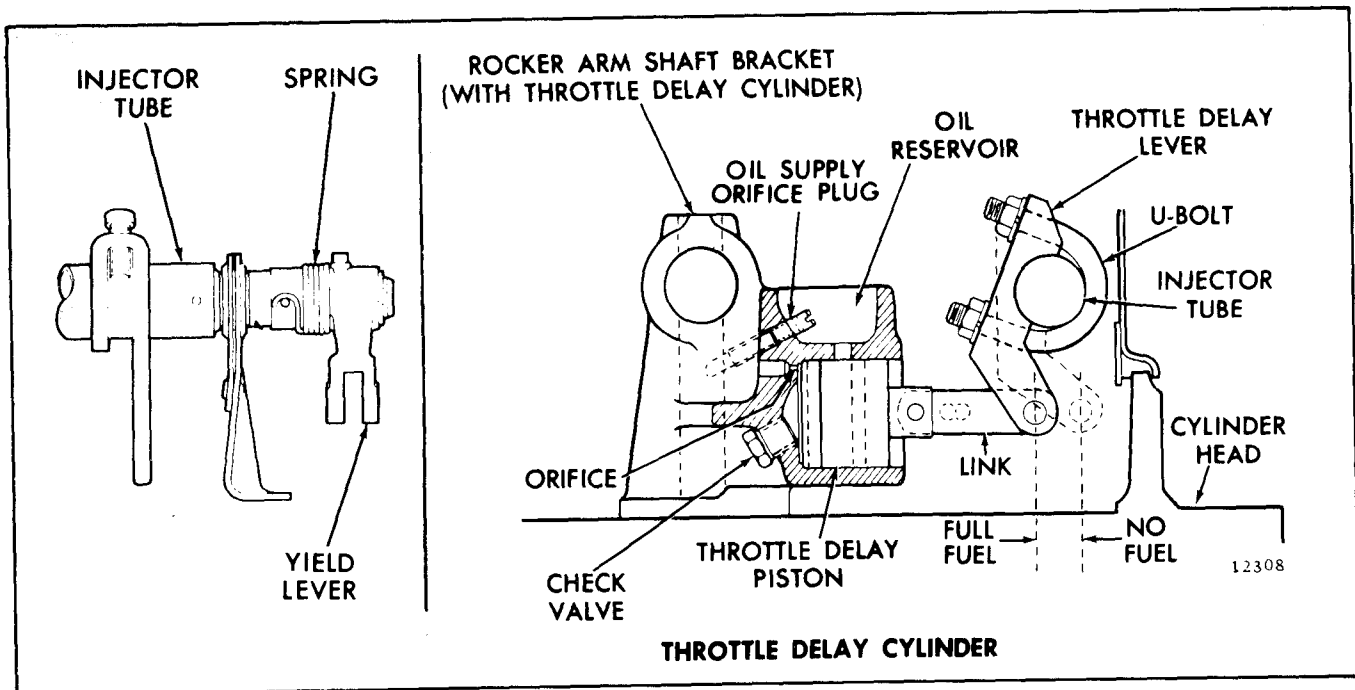

Fig. 2 - Throttle Delay Cylinder and Yield Link
The throttle delay mechanism is installed between the No. 1 and No. 2 cylinders on the cylinder head (Fig. 2). It consists of a special rocker arm shaft bracket (which incorporates the throttle delay cylinder), a piston, throttle delay lever, connecting link, orifice plug, ball check valve and U-bolt.
Oil is supplied to a reservoir above the throttle delay cylinder through an orifice plug in the drilled oil passage in the rocker arm shaft bracket (Fig. 2). As the injector racks are moved toward the no-fuel position, free movement of the throttle delay piston is assured by air drawn into the cylinder through the ball check valve. Further movement of the piston uncovers an opening which permits oil from the reservoir to enter the cylinder and displace the air. When the engine is accelerated, movement of the injector racks toward the full-fuel position is momentarily retarded
4. Rotate the throttle delay lever in the direction shown in Fig. 2 until further movement is limited by the piston contacting the pin gage.